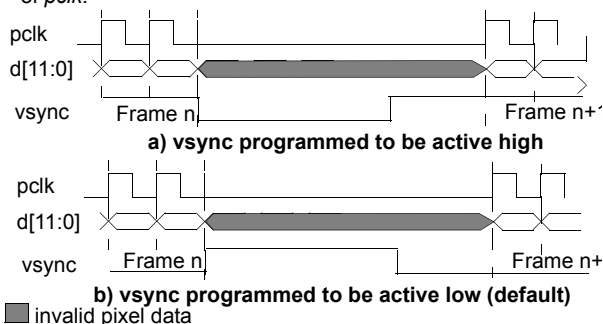

Figure 42. *vsync* in pulse mode
- Pulse mode should be used when the pixel clock, *pclk*, is programmed to operate in *data ready mode*. In pulse mode the *vsync* output pin will produce a pulse at the end of each frame. The width of the pulse will be a minimum of four *hclk* cycles and its polarity can be programmed as shown in Figure 42. The *vsync* level is always synchronized to the active edge of *pclk*.